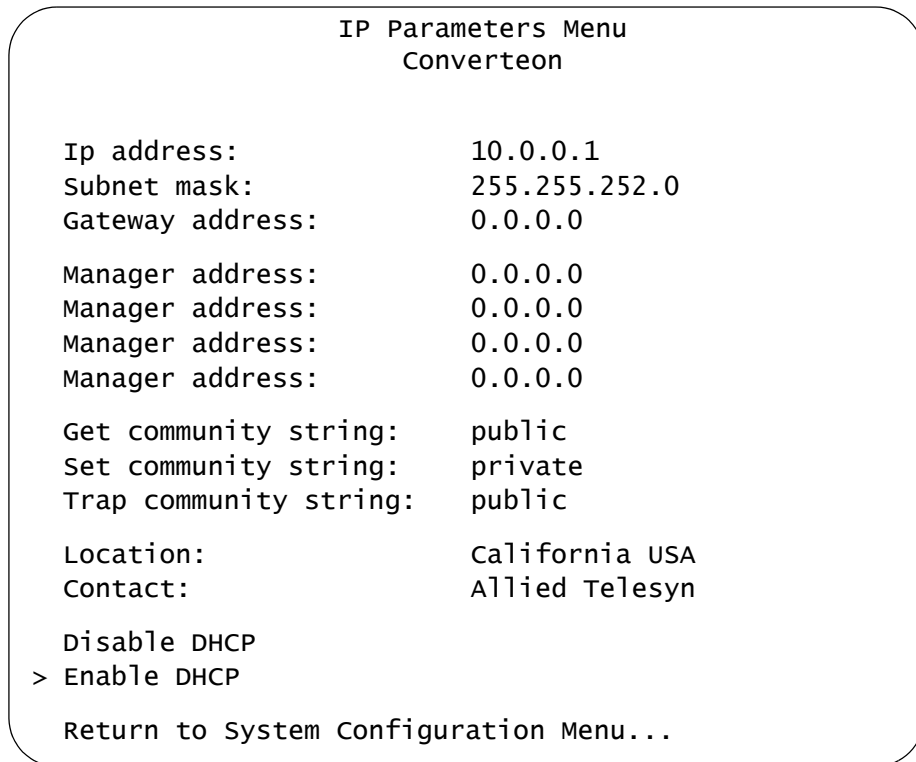

Figure 6. IP Parameters Menu
2. From the System Configuration Menu, select **IP Parameters**. The IP Parameters Menu, as shown in Figure 6, is displayed.
3. The IP Parameters Menu, as shown in Figure 6 on page 37, is displayed.
The IP Parameters Menu, as shown in Figure 6 on page 37, is displayed.